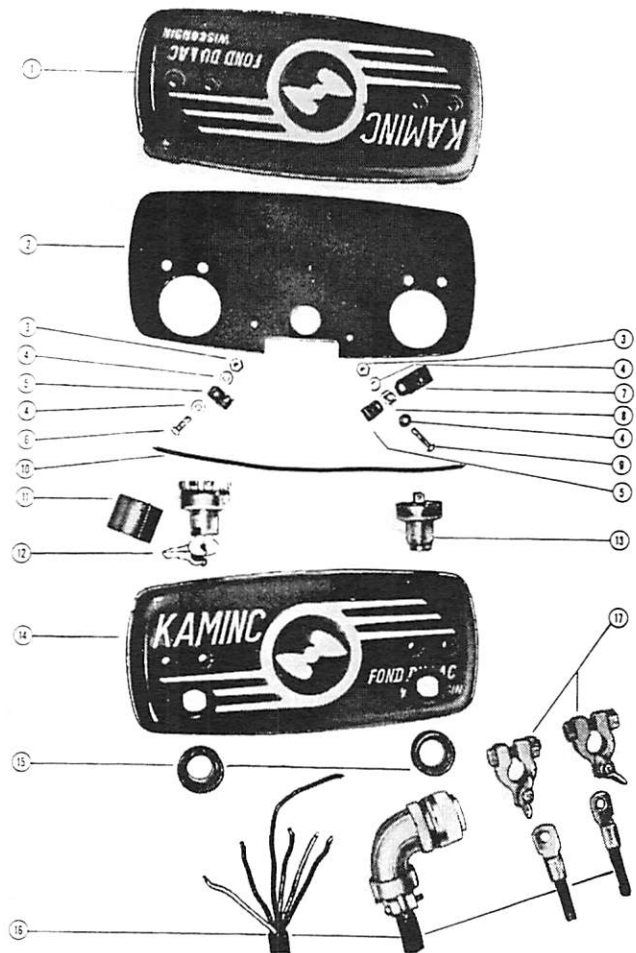

Figure 17. Electric Remote Control Assembly
F. Remote Control, 4 and 2 Cylinder Motors (Figure 17)